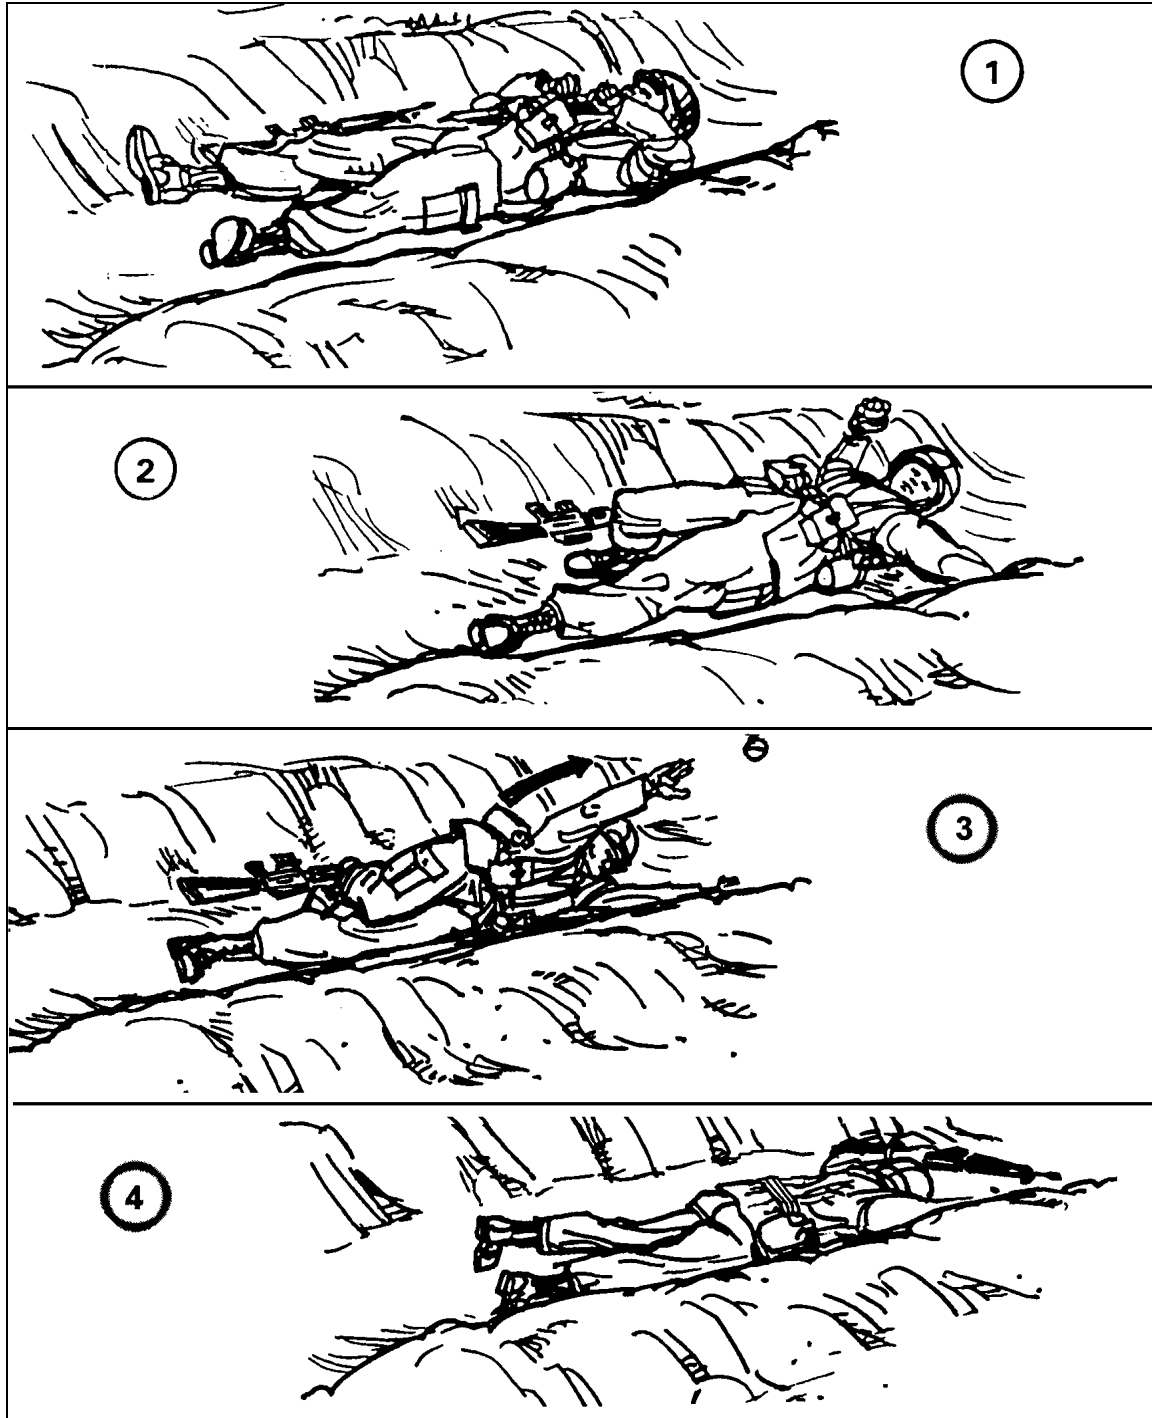

Figure 3-7. Alternate prone throwing position.
(3) *Alternate prone*. The alternate prone position (Figure 3-7) reduces both distance and accuracy. It is used only when an individual is pinned down by hostile fire and is unable to rise to engage his target. Use the following procedures when throwing from this position: